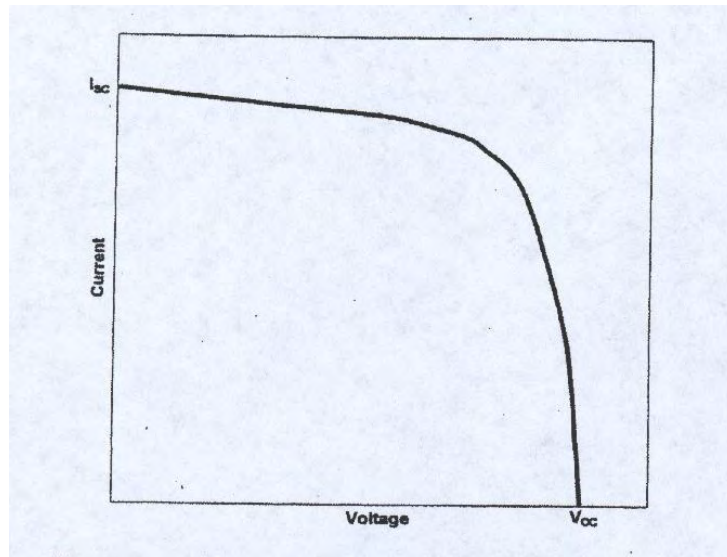

Figure 1. Solar panel current versus voltage characteristics
A photovoltaic (PV) cell converts light energy directly into electricity. A solar panel is made up of many PV cells connected in series. The characteristics of a solar panel are best described by a graph of current versus voltage, as shown in Fig. 1 below.
Note: the numbers used in this example are taken from the numbers used to generate figures 1 and 2.